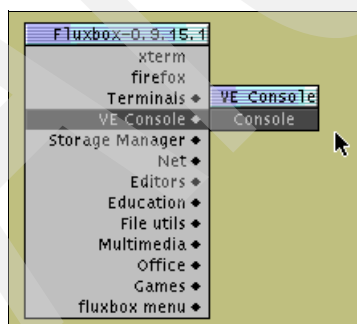

Figure 6-3 Selecting VE Console on the x-windows
2. After login, right-click **VE Console** and select **Console**, as shown in Figure 6-3.